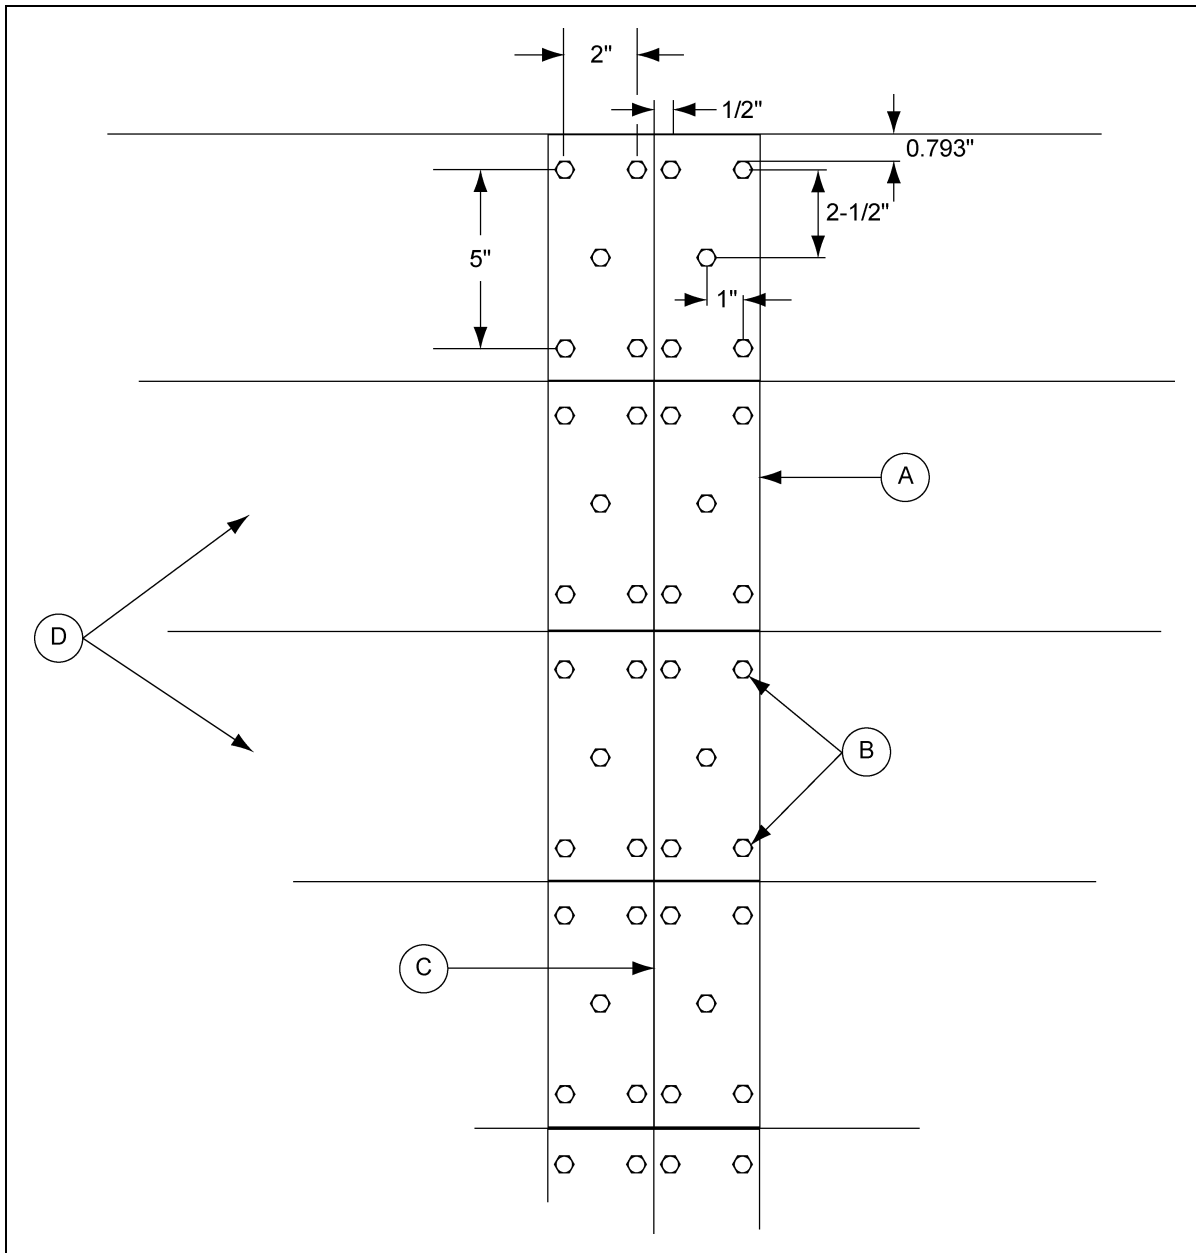

Figure 5E Specifications for installing the Undersplice to Floor Planks
The undersplice should be installed underneath the planks at the split after both plank lengths have been butted together. Each splice has to be installed as each row of planks are installed. Figure 5E shows the layout of the undersplice plates (A) and the screw pattern used to secure them.